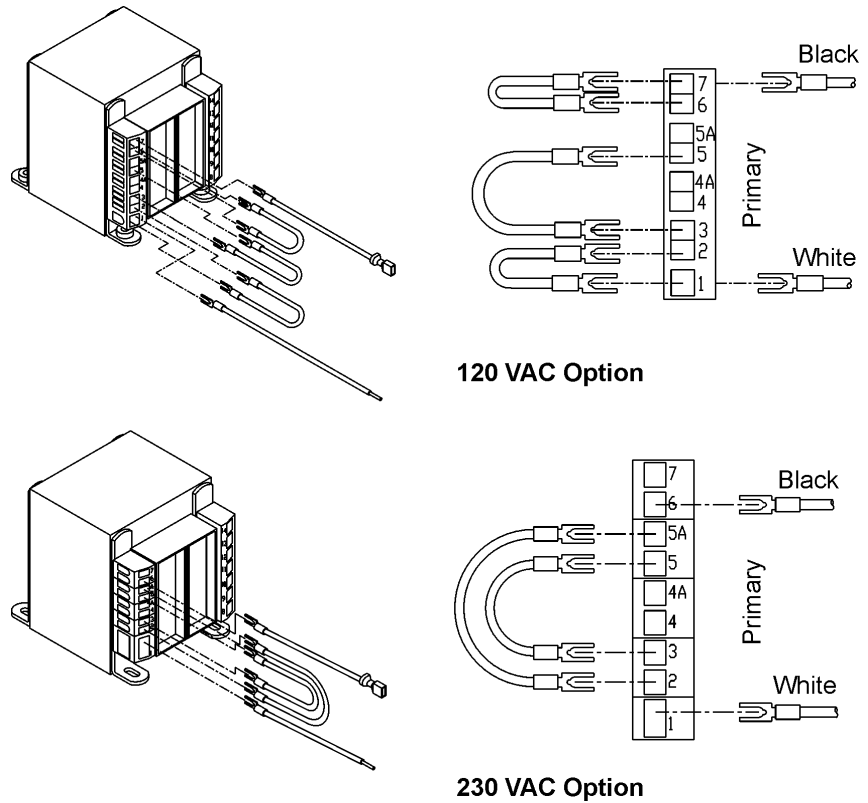
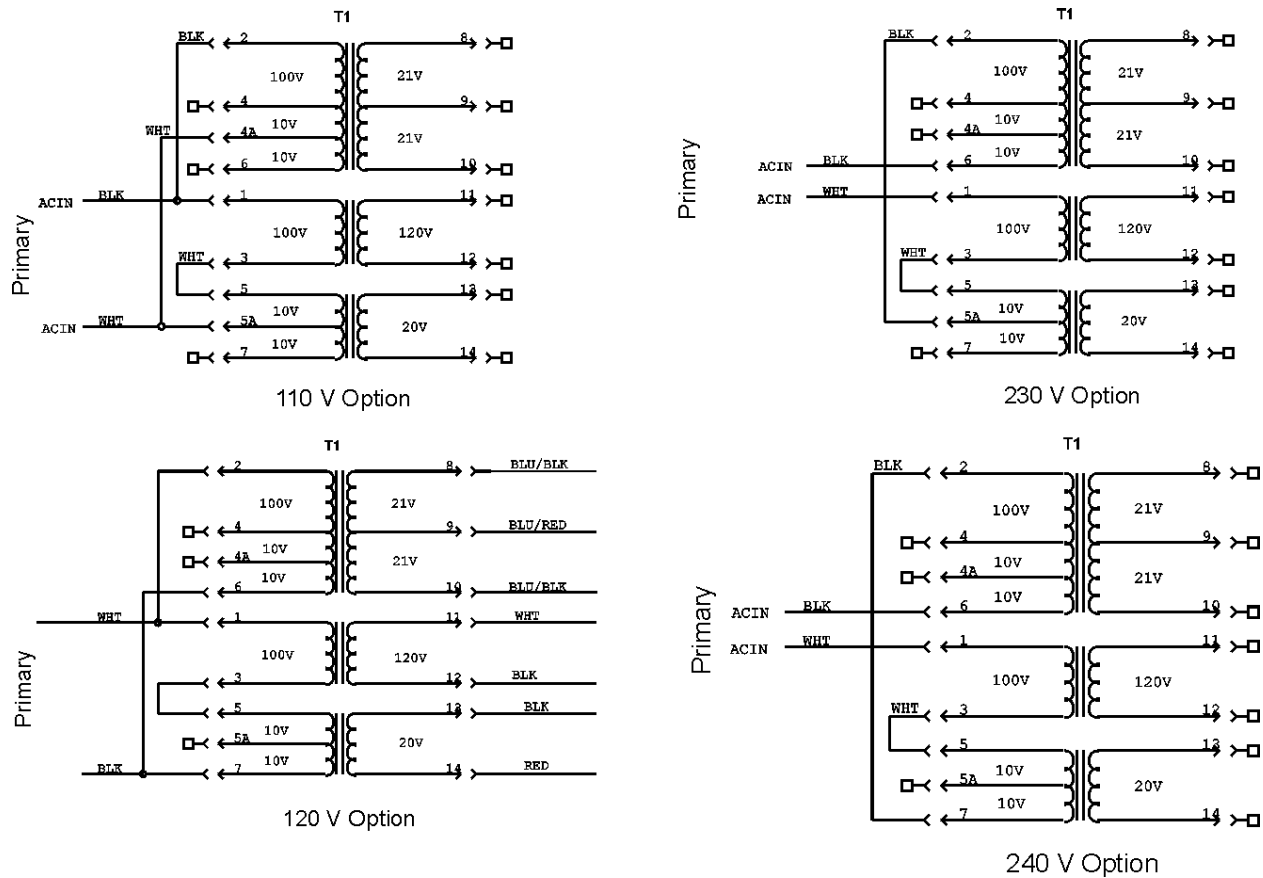

Figure 5-6. Input (Primary) 120 and 230 VAC Configurations
Figure 5-7. Isolation Power Transformer Options
- **Isolation Power Transformer.** With the exception of the heater, this transformer isolates the electronics from the input line. There are four optional input voltages: 110, 120, 230, and 240 VAC. All options use the same transformer with the primary coils wired in a different way. Figure 5-6 shows how two options are physically connected, and Figure 5-7 shows a schematic diagram with all options.